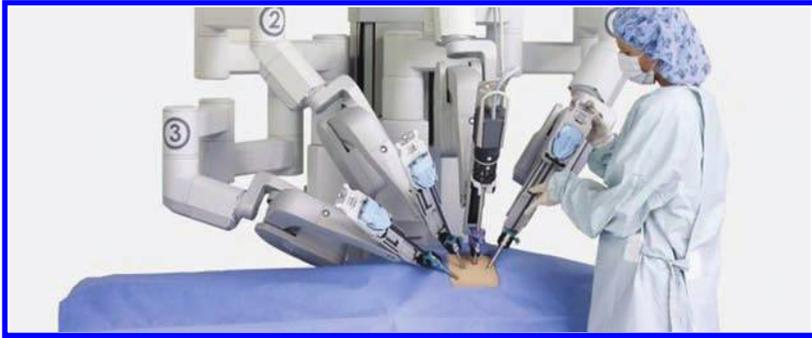
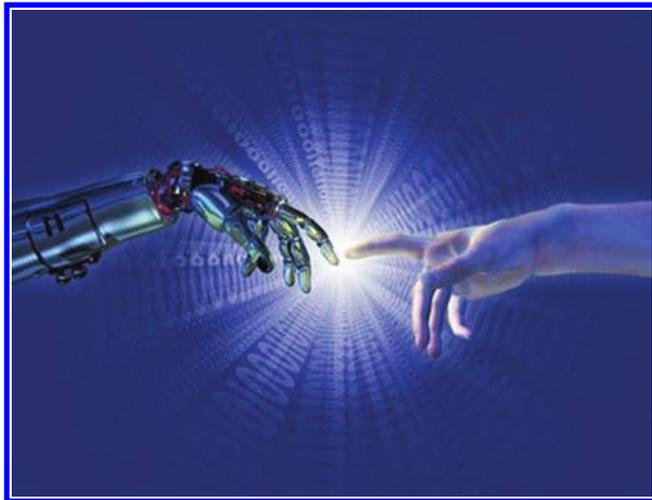

FIGURE 15.44
FIGURE 15.45
e-Medicine, Artificial Intelligence, Transhumans, and the Singularity There is no question that micro/nano innovation is revolutionizing medicine (Figure 15.43). Think CT scan, Gamma-knife, drug therapies, online digital patient records, e-Doctors (MD meets Skype; disease diagnosis from 5000 miles away), robotic surgery (Figure 15.44), you name it. Big changes to health care are either here already or are coming soon, and all rely on transistor-based electronics to do their thing. Thinking further out, we can imagine a future in which the interactions between humans and electronic systems become a lot cozier, perhaps even some sort of merger between artificial intelligence (AI) and the human animal. Living machines. Can you say Humans 2.0 (aka transhumans—Figure 15.45)? Yep, some folks envision playing micro/nano games to hijack human evolution and build a better us! Sound a little scary? Definitely bold. How possible is this? Tough to say, but interesting to think about. On a related note, painting this path forward leads to something often referred to as the technological “singularity,” in which accelerating progress in micro/nano technologies cause a runaway effect in which machine intelligence exceeds human intellectual capacity and control [23]. Yep, predictably, they (the thinking